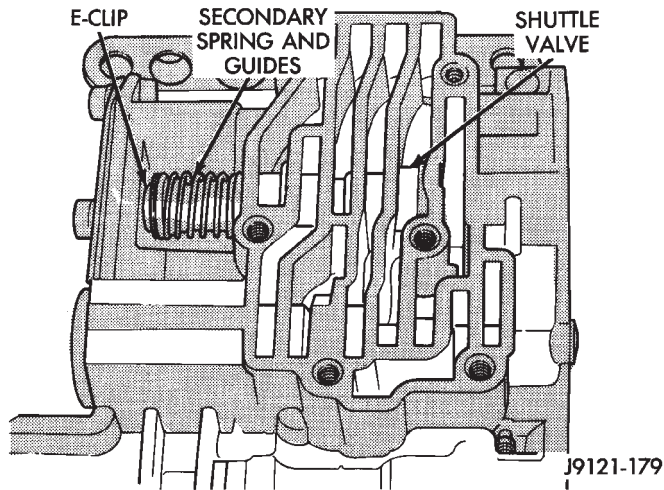

Fig. 56 Shuttle Valve E-Clip And Secondary Spring
(22) Remove shuttle valve E-clip and remove secondary spring and spring guides from end of valve (Fig. 56).